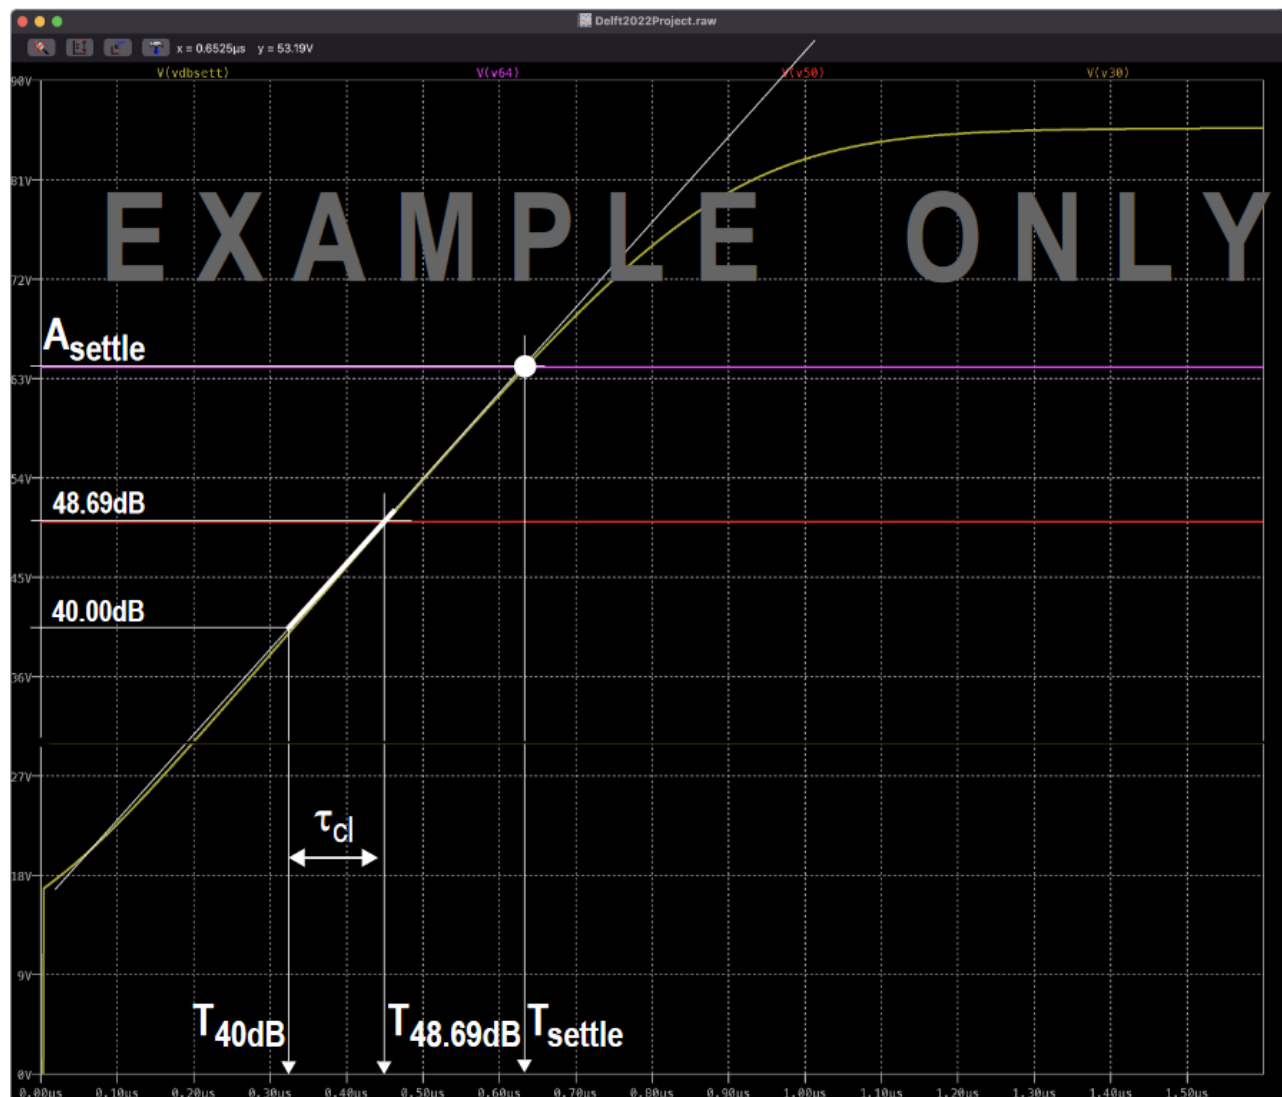

Fig.12. Settling curve with times indicated.
- 7) Plot of settling accuracy versus time, showing  $T_{settle}$ ,  $T_{40dB}$  and  $T_{48.69dB}$  (fig. 12).